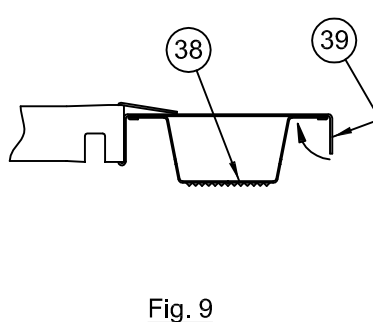

Fig. 9
2. Lift Luminaire (30) to position Furring Channel Brackets over Furring Channels (38) and secure in place by bending Tabs (39) over as shown in Fig. 9.